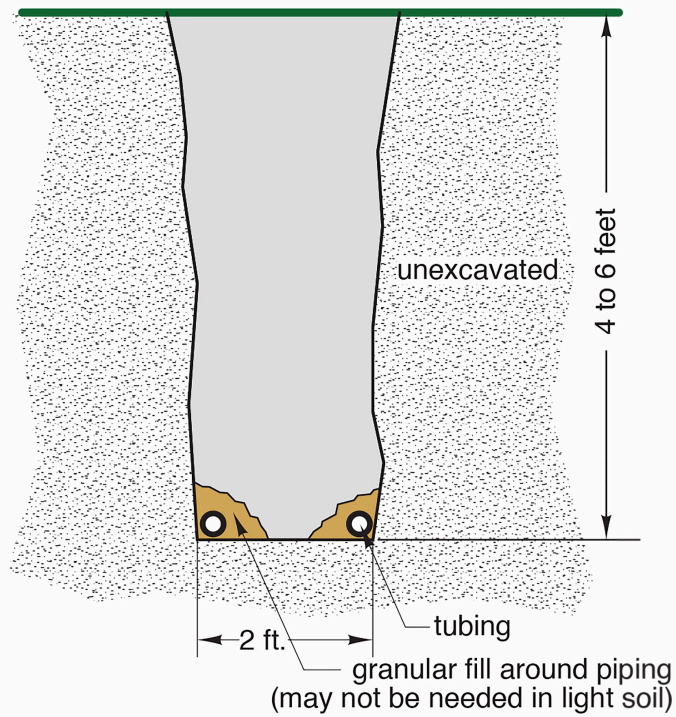

Figure 3 Two pipes horizontally in trench
- Figure 3 Heating capacity graph © Caleffi Hydronic Solutions (<https://www.caleffi.com/usa/en-us>). Used with permission.